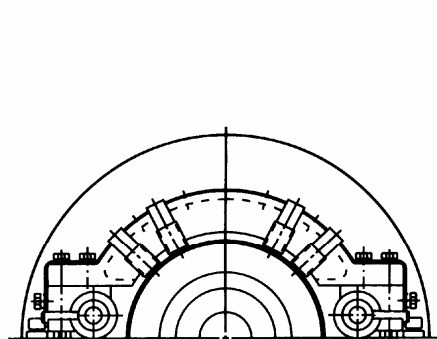
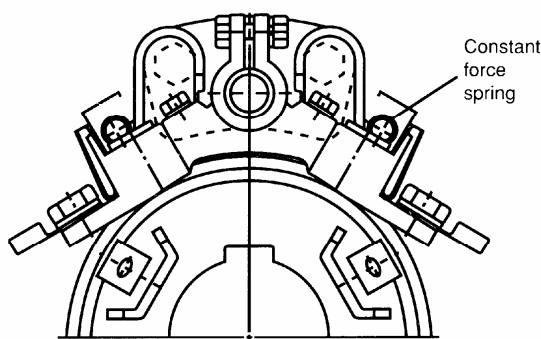

Fig.15
Fig.16
- (c) Brush pressure need not be adjusted if constant force spring is used as shown in Fig. 15 and Fig. 16.